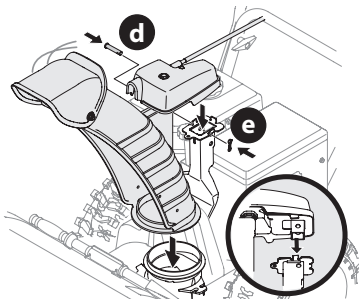

Figure 37
3. Place chute onto chute base and ensure chute control rod is positioned above lower handle. Secure chute control head to chute support bracket with clevis pin (d) and bow-tie cotter pin (e) removed in Step 1 (Figure 37).